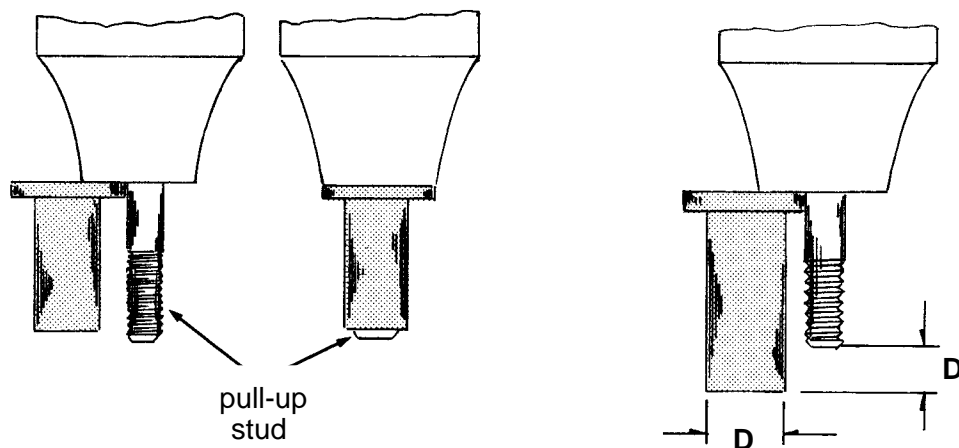

Figure 7 - Pull-Up Stud Adjustment
- 5.6.1 Adjust the pull-up stud of the installation tool for each Rivnut grip length so that the stud engages all threads in the Rivnut. Adjust the pull-up stud for open end Rivnuts so that the chamfer on the end of the stud extends just beyond the end of the Rivnut shank. Adjust the pull-up stud for closed end Rivnuts so that it is within a distance approximately equal to the Rivnut diameter (see Figure 7).